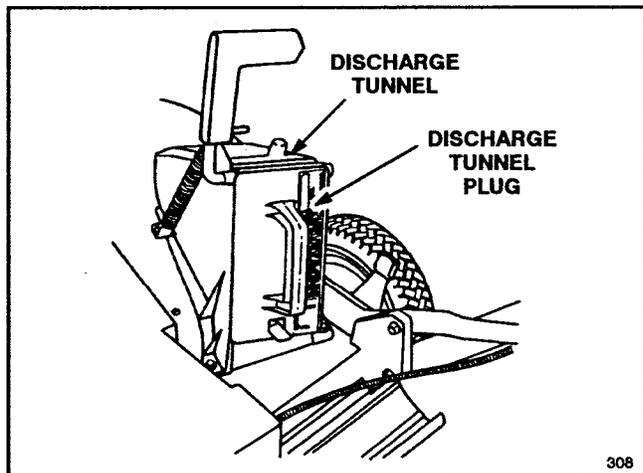

Figure 34
2. **Rear Bagging Kit, Model No. 59179**—Install discharge tunnel and rear mounting grass bag to convert the Recycler® II Super Pro® mower to a rear bagging mower (Fig. 34). Includes discharge tunnel plug.